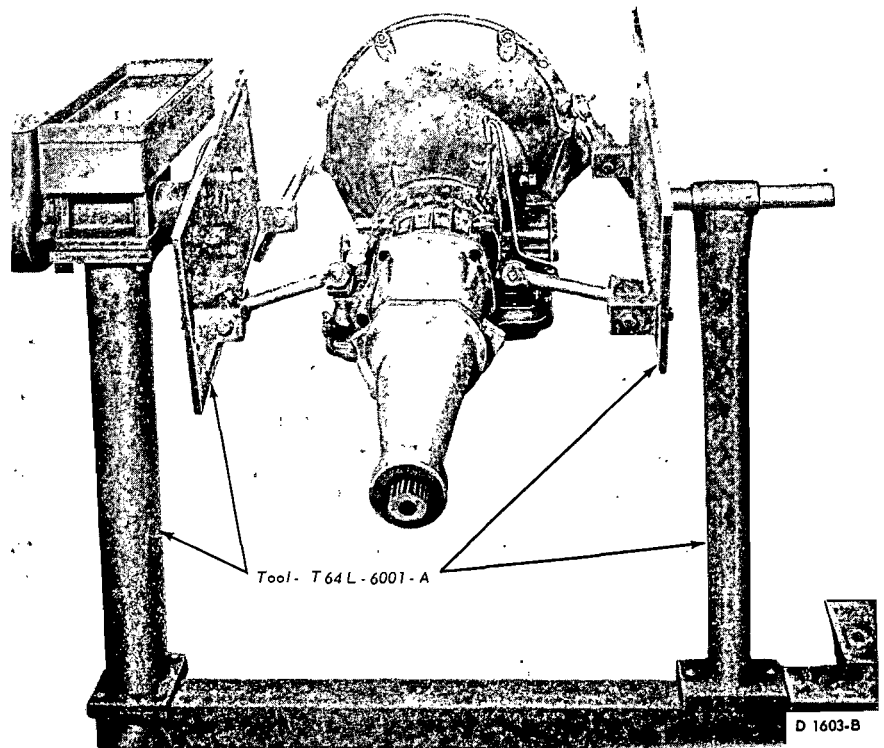

FIG. 30—Transmission Mounted in Holding Fixture
1. Mount the transmission in holding fixture T59P-7000-A (Fig. 30).